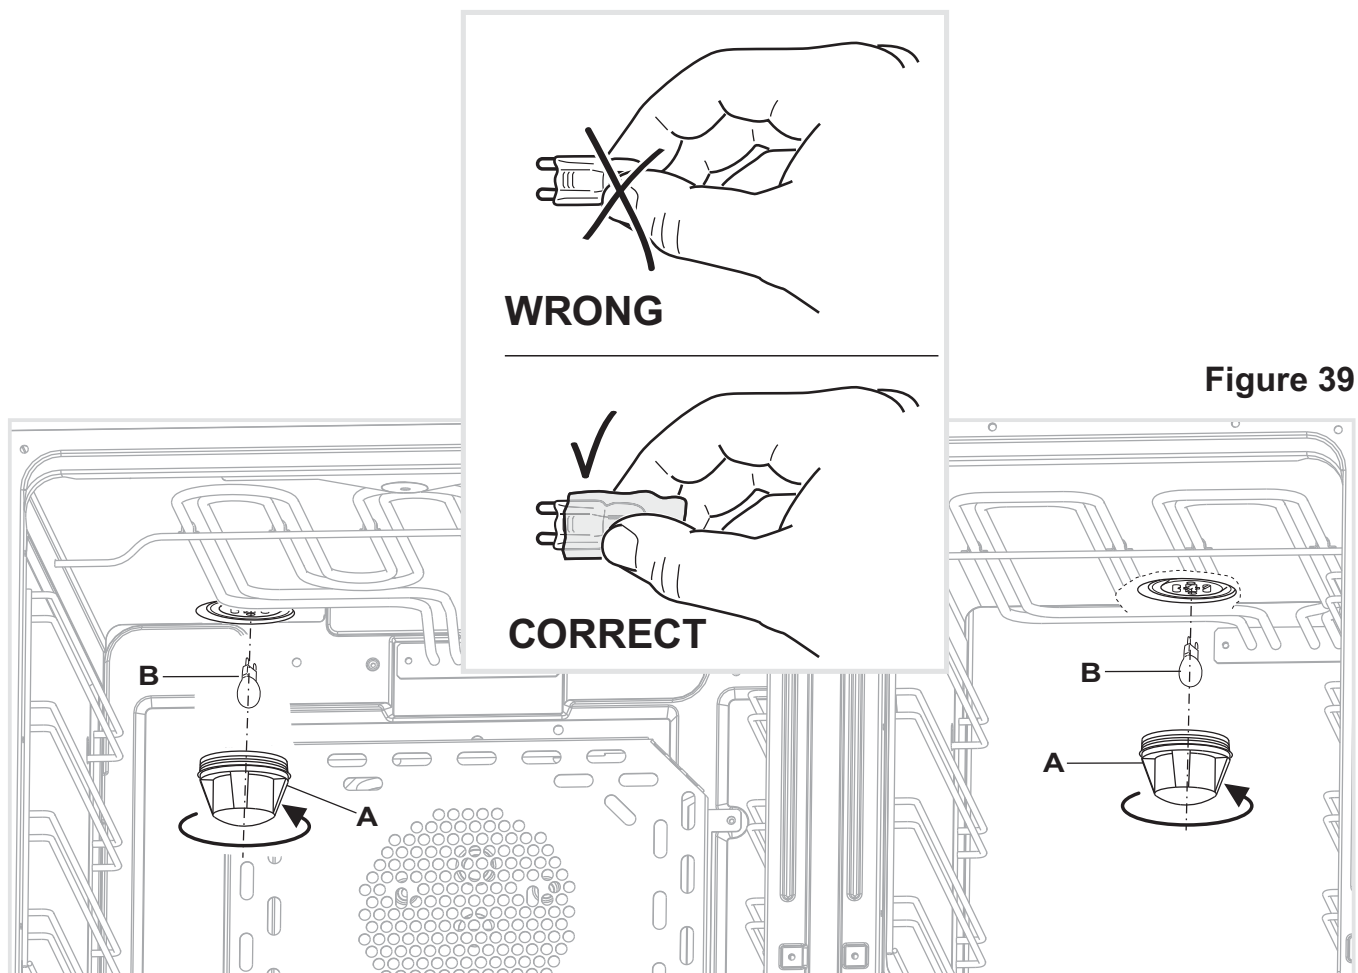

Figure 39
- Remove the protective cover “A” (fig. 39).